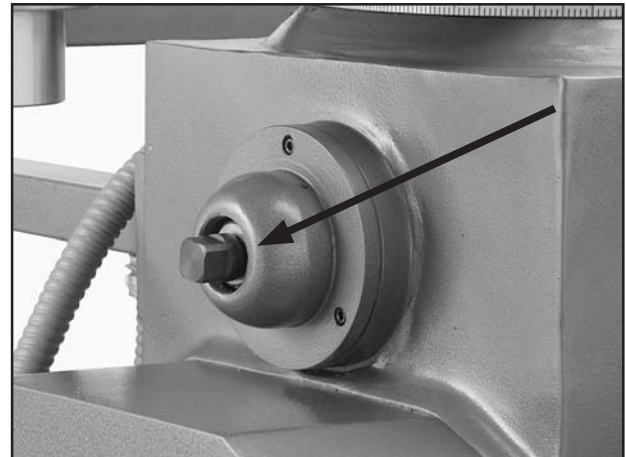

Figure 27. Drawbar inserted into horizontal spindle from rear of the column.
8. Insert the horizontal drawbar into the horizontal spindle from the rear of the column (see **Figure 27**).